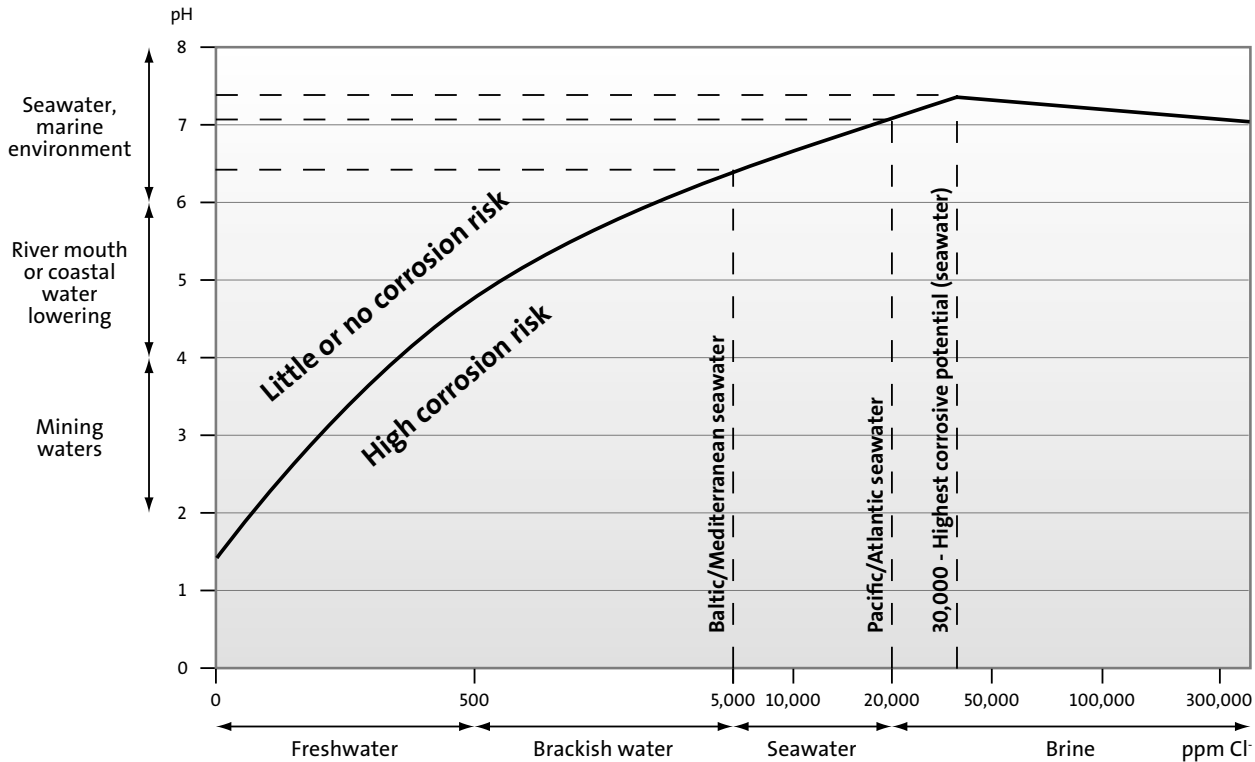

Fig. 10 Corrosion due to chlorides
- 2. With this chloride equivalent, use fig. 10 to find the minimum pH value acceptable for EN 1.4539 (AISI 904L) stainless steel. If the illustration indicates that there is a high corrosion risk, epoxy-coating of the motor is required.